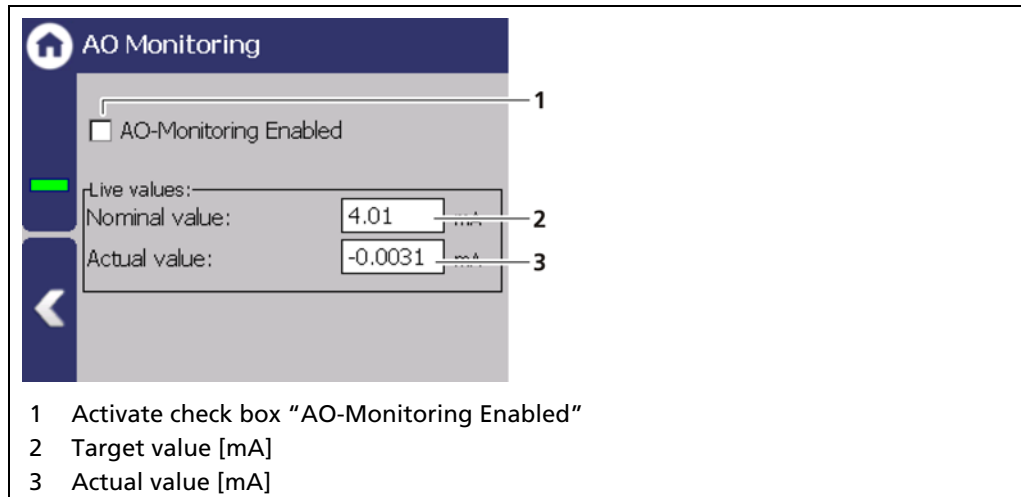

Fig. 97 Analog Output Monitoring
If "AO Monitoring" is activated (Fig. 97, item 1), the current output will be monitored. It is continuously monitored whether the current value flowing in the current loop is correct.